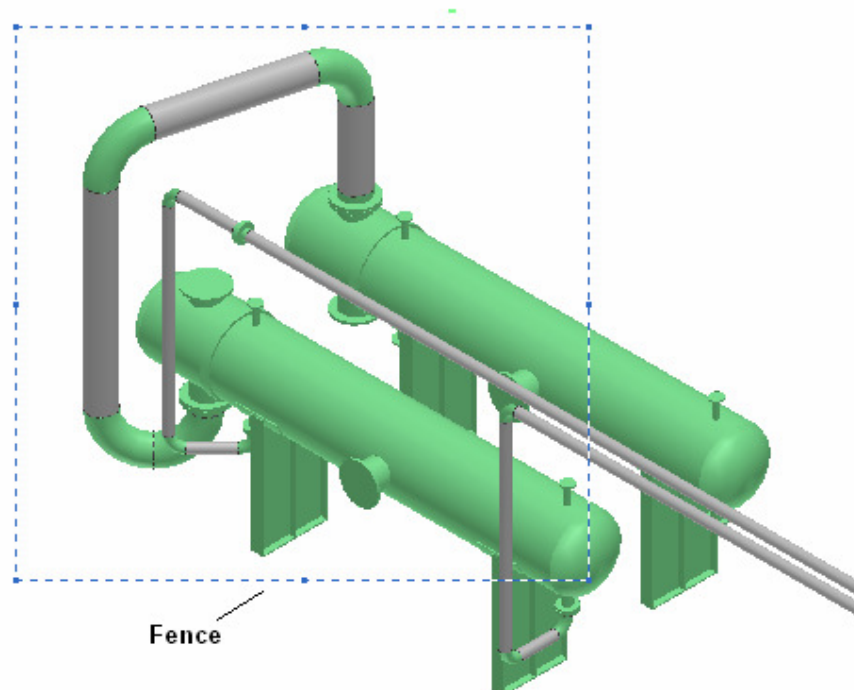

Figure 3: Overlapping Fence
4. Place a fence around Pipeline **403-P** by dragging the dashed fence lines around Pipeline **403-P**. The fence should cover the parts of Pipelines **402-P** and **401-P**, as highlighted in Figure 3.